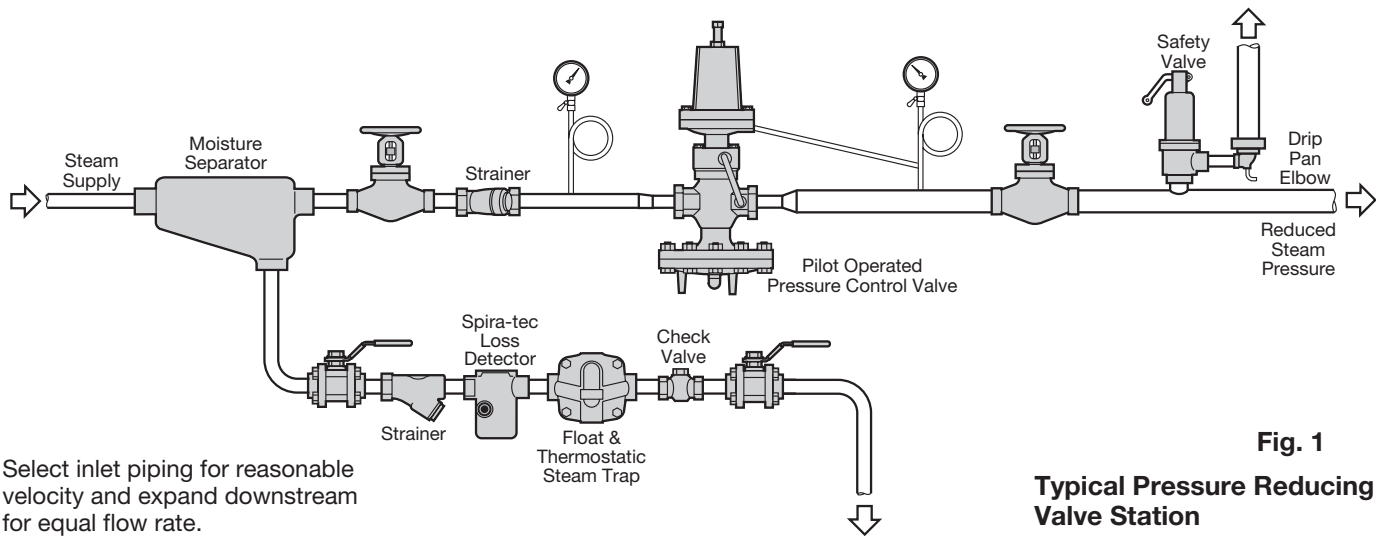

Fig. 1
1. Typical hookup sketches as shown in Figs. 1, 2 and 3 will aid in planning a correct installation.
6. Valve should always be installed in a horizontal position. (See Figs. 1, 2 and 3.)
2. Connect the sensing line to a straight portion of the piping 10 pipe diameters from the nearest fitting downstream from the valve and approximately 1 foot from elbows, tees, valves and other restrictions. (See Figs. 1, 2 and 3.)
1. A bypass connection, as shown in Figs. 1, 2 and 3 is recommended so that the valve can be serviced without shutting down the equipment.
1. To insure proper operation of the valve and avoid premature wear, it is recommended that a 1/2" Spirax Sarco thermodynamic steam trap be installed on the steam supply line. (See Figs. 1, 2 and 3.)